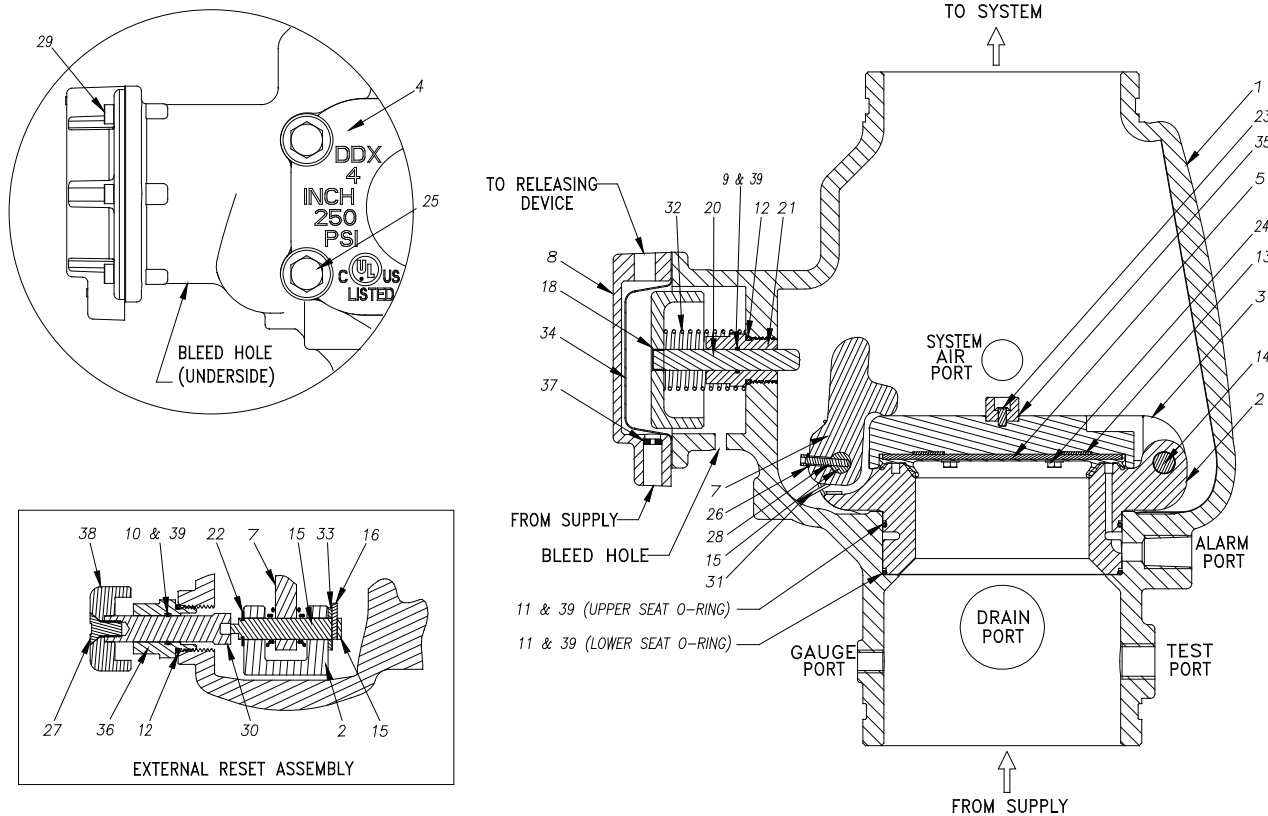

Fig. 7
9. With the Model B Hydraulic Manual Emergency Station, valve D (Fig. 8), open, rotate the Model DDX-W/D's reset knob (#38 Fig. 7) clockwise until you hear the distinct noise, indicating that the clapper has closed. **Note:** The reset knob can only rotate when the pushrod chamber is vented through the Model B Hydraulic Manual Emergency Station, valve D (Fig. 8)
5. **Ball drip valve G (Fig. 8)** - make sure valve F and valve L (Fig. 8) are open. Push on plunger to be sure the ball check is off its seat. If no water appears, the Wet/Dry Valves water seat is tight. Inspect the bleed hole (Fig. 7) on the underside of the pushrod chamber for leakage.